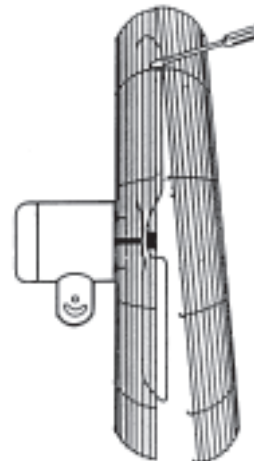

Figure 14
2. Insert two screwdrivers as illustrated. (See fig. 14)